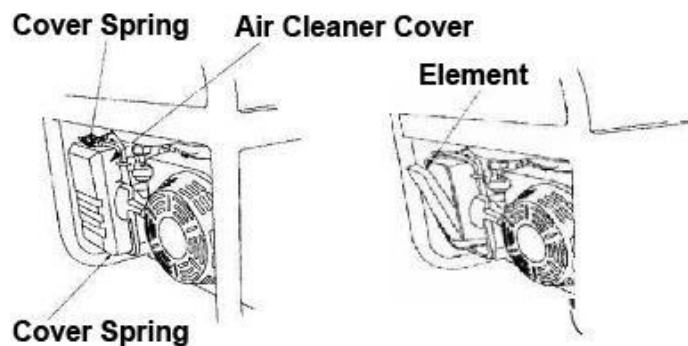

Figure 18 - Removing the Air Cleaner Casing.
1. Unhinge the clasps at the top and bottom of the air cleaner cover (see figure 18).